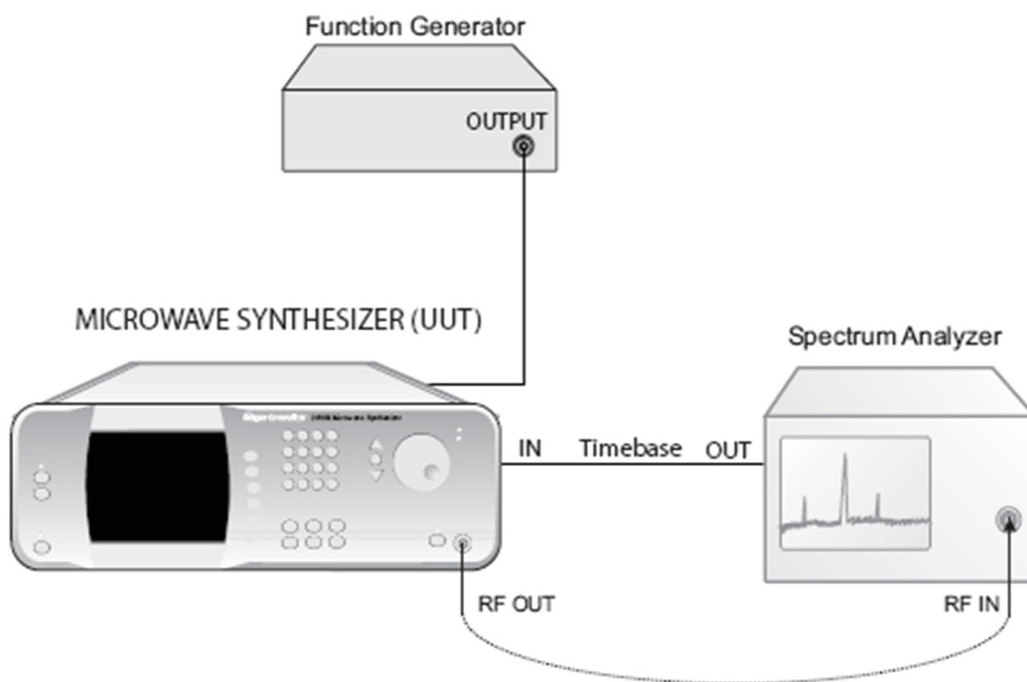

Figure 52: Amplitude Modulation Accuracy and Bandwidth Test Setup
1.	Connect the equipment as shown in Figure 52 on page 113. <ul style="list-style-type: none"> <li>Connect the function generator output to the EXT AM IN connector on the rear of the 2500B.</li> <li>Connect the spectrum analyzer timebase output to EXT REF IN on the rear of the 2500B.</li> </ul>
2.	Connect the equipment as shown in Figure 52 on page 113. <ul style="list-style-type: none"> <li>• Connect the function generator output to the EXT AM IN connector on the rear of the 2500B.</li> <li>• Connect the spectrum analyzer timebase output to EXT REF IN on the rear of the 2500B.</li> </ul>